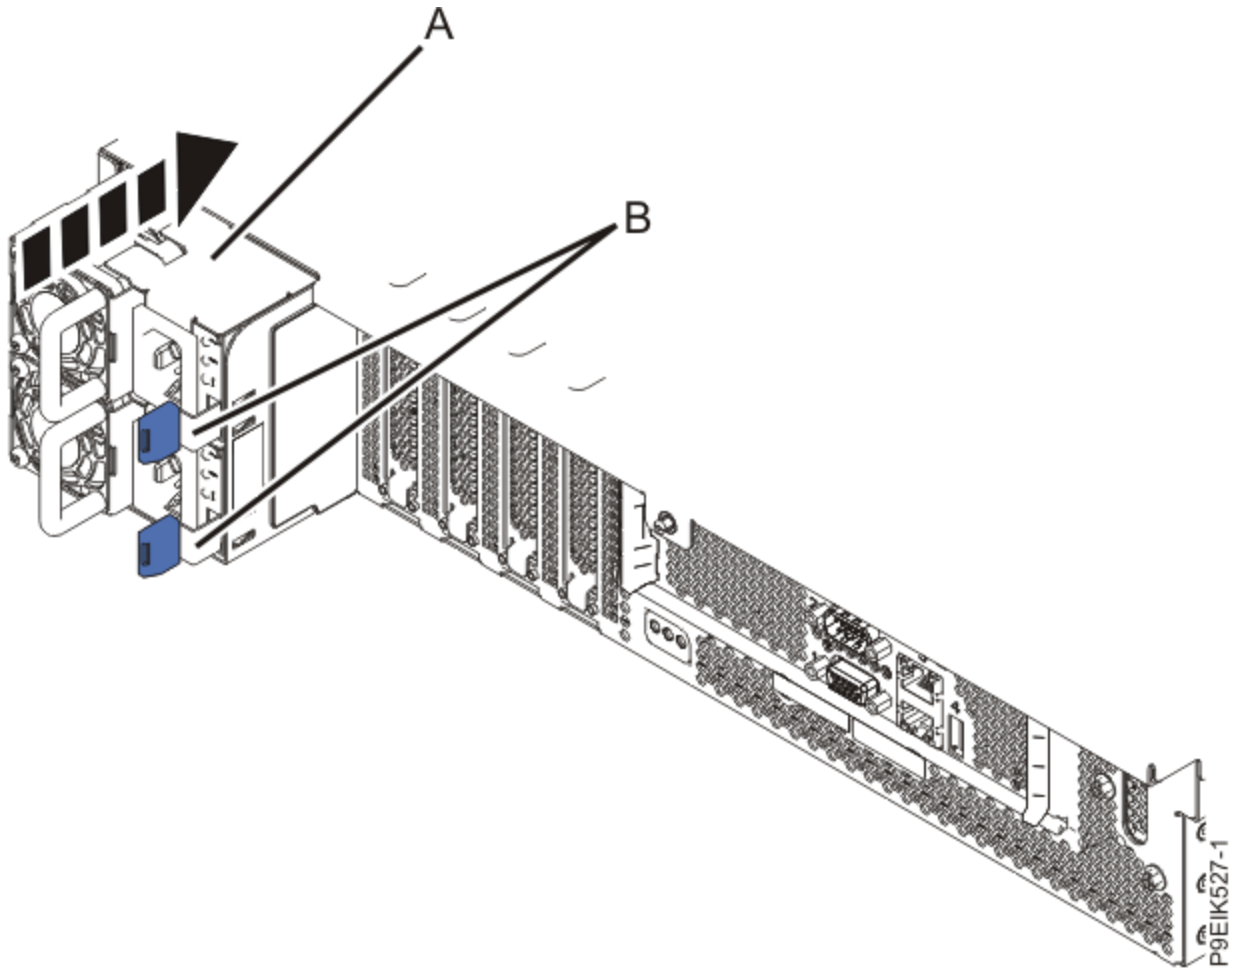

Figure 34. Replacing the power supplies in the system
2. Replace the power supplies as shown in Figure 34 on page 49.